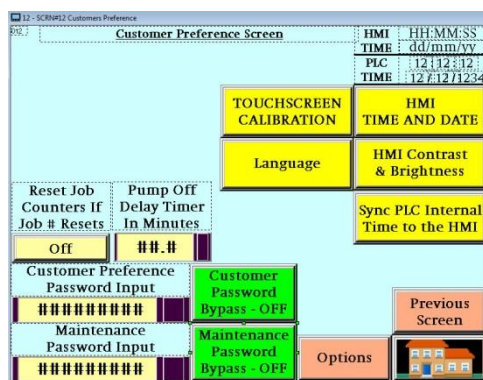

Figure 29
Note that the 16page main enclosure receptacle assembly is now an option and must be wired into the enclosure. As an option, the 16page must be “turned On” in the logic as well. See Customer Preferences (figure 29). Press the Orange **Options** button on the bottom of the screen left of the Home Icon. Turn On the 16page option from the option screen (figure 30).
1. Start from the Customer Preferences screen (figure 29).